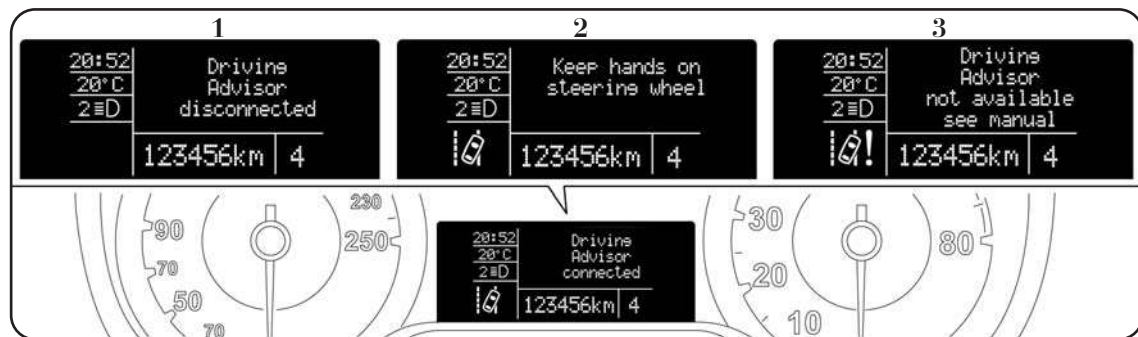

fig. 74
Confirmation that the system has been switched off is given by the LED in the button and the message 1 - fig.74 in the display going out.
The system can be deactivated automatically (if the system is required it will therefore need to be reactivated). The driver is advised that the system has been turned off automatically by three consecutive acoustic signals and the message 1 - fig. 74 in the display in the following conditions:
- the driver does not keep their hands on the steering wheel (indication 2 - fig. 74 is shown on the instrument panel and an acoustic signal sounds until the driver places his hands back on the wheel. This is considered a dangerous condition and the system is automatically deactivated);
IMPORTANT The system cannot be activated if the driver has previously selected the sports driving mode. The impossibility of using the system will be communicated to the driver by three consecutive beeps and by the message 1 - fig. 74 in the display.
In the event of malfunction, the system advises the driver of the fault through message 3 - fig. 74 on the display and an acoustic signal.